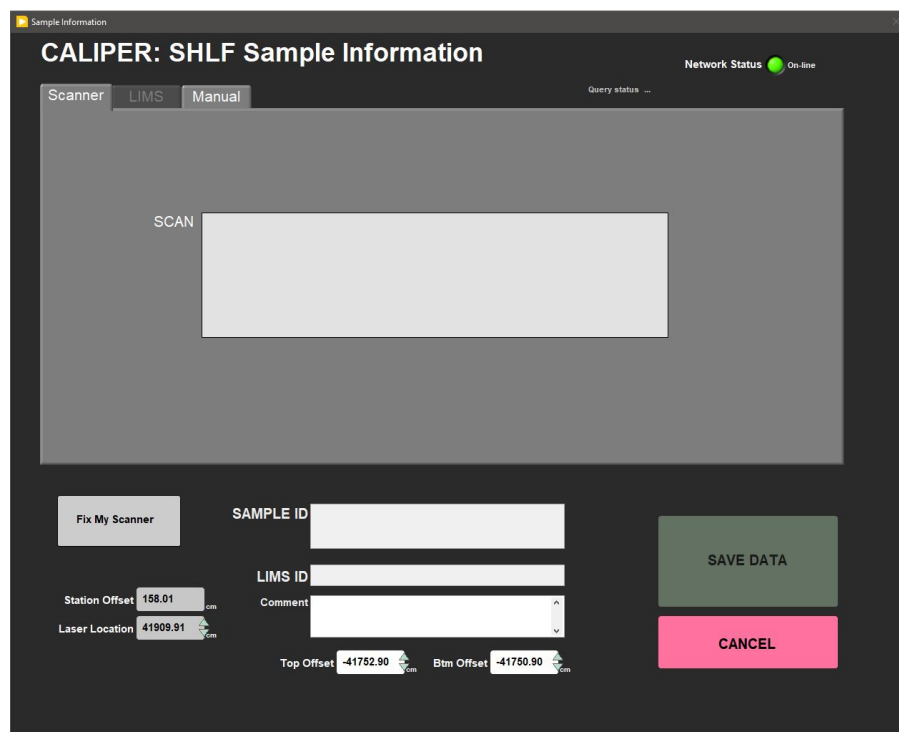

Figure 14. Section Half Caliper Measurements Sample Information Window
6. Select **Save Data**. A sample information window will appear (Figure 14).
5. Select **Save Data**. A sample information window will appear (Figure 14).